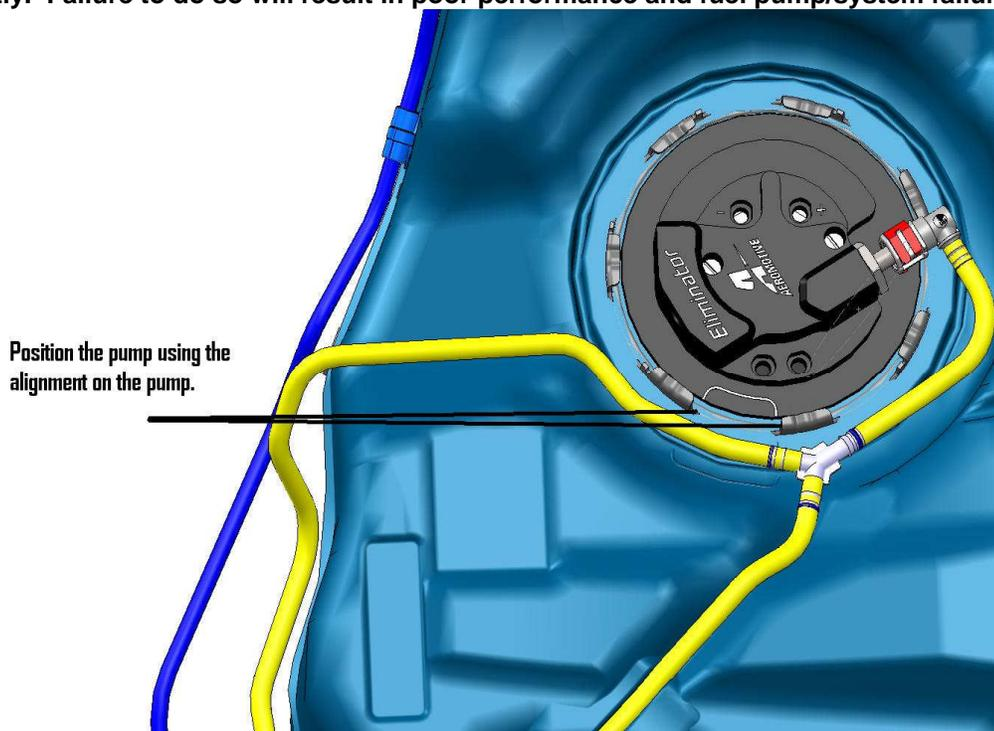

FIGURE 1-8
18. Use the positioning marks on the pump to align the unit. **FIGURE 1-8.** Replace the lock ring on the top of the fuel pump assembly and rotate it to the “locked” position. If re-using the factory feed line, attach it to the Aeromotive pump at this time. **NOTE: You must install a by-pass style regulator with return line in order for the fuel pump to function correctly. Failure to do so will result in poor performance and fuel pump/system failure.**